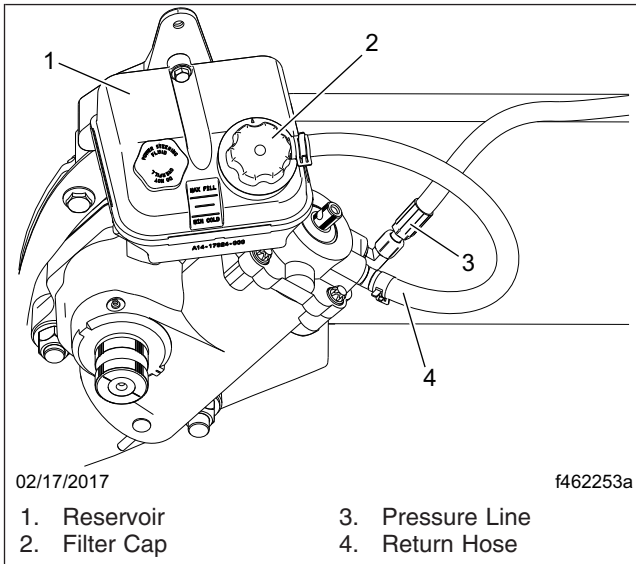

Fig. 1, Power Steering Reservoir
7. Remove the pressure line and return hose (see Fig. 1) from the steering gear and allow the oil to drain.
MAX HOT lines. See **Fig. 1**. See **Table 1** for approved power steering fluids.